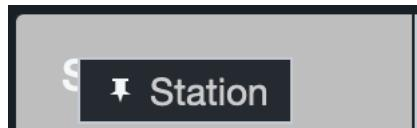

Figure 27. Pushpin Icon.
- 2) Columns can be pinned such that they remain in place while scrolling. For instance, in the Station Statistics display the Station column is pinned by default as indicated by the white divider between it and the Station Missing (%) column in Figure 21. To pin columns, drag a desired column to the far left or far right of the table, then hold until a pushpin icon appears (Figure 27).